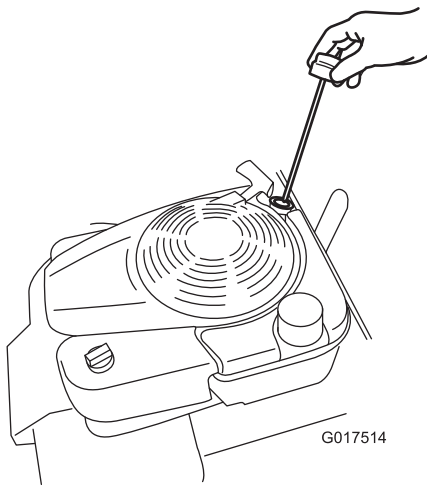

Figure 34
8. Remove the dipstick (Figure 34) and pour about 3/4 of the crankcase capacity of oil into the oil-fill tube.